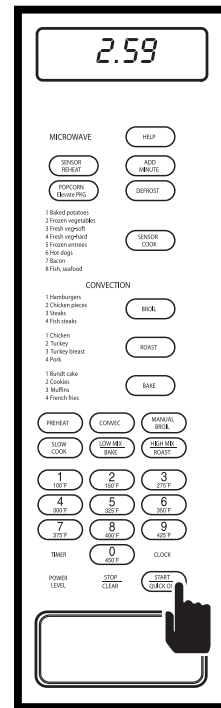

Figure 3-27. To
4. After amount of time is entered, press QUICK ON/START key to begin timer countdown (See Figure 3-27). At the end of the countdown, display will flash "END " and alarm will beep. Push the STOP/CLEAR key to return to normal operation.